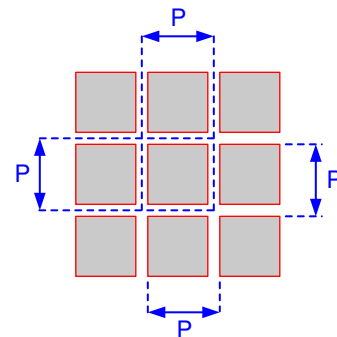

図 5-8. Micromirror Array Physical Characteristics
- (1) See 図 5-8.
(2) The structure and qualities of the border around the active array includes a band of partially functional micromirrors called the *Pond Of Mirrors* (POM). These micromirrors are structurally and/or electrically prevented from tilting toward the bright or “on” state but still require an electrical bias to tilt toward “off.”